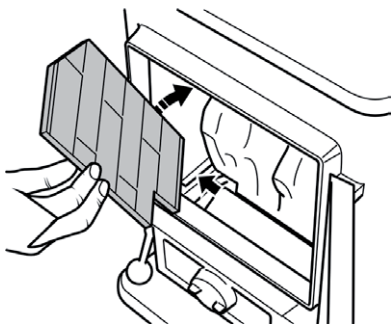

Figure 4
5. Fit the left hand side wall against the left hand side of the firebox. Locate the bottom of the side wall into the channel along the bottom of the firebox (See figure 4). Supplied with the stove are two ceramic retaining brackets. One for each side of the firebox. Hold the ceramic side wall against the steel firebox plate and slide the long leg of a retaining bracket behind the steel firebox plate. Push down to hold the ceramic side wall in place.